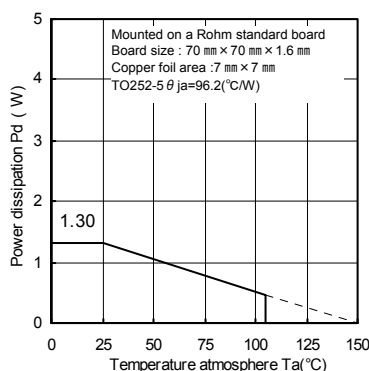
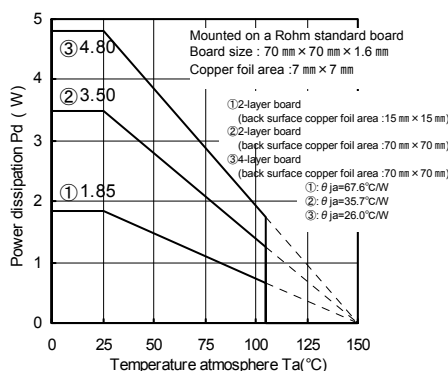
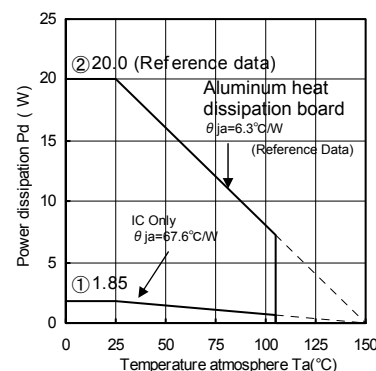

Fig.15
Fig.16(Reference data)
Fig.17
When using at temperatures over $T_a=25^\circ\text{C}$, please refer to the heat reducing characteristics shown in Fig.15 and Fig.16.
Fig.15 and Fig.16 shows the acceptable loss and heat reducing characteristics of the TO252-5 package. Even when the ambient temperature T_a is a normal temperature (25°C), the chip (junction) temperature T_j may be quite high so please operate the IC at temperatures less than the acceptable loss P_d .
The calculation method for power consumption $P_c(\text{W})$ is as follows : (Fig.16③ and Fig.17)
$$I_o \leq \frac{2.496 - 10 \times I_b}{5} \quad \left[\begin{array}{l} \text{Fig.16③: } \theta_{ja}=26.0^\circ\text{C/W} \rightarrow -38.4\text{mW}/^\circ\text{C} \\ 25^\circ\text{C}=4.80\text{W} \rightarrow 85^\circ\text{C}=2.496\text{W} \end{array} \right]$$
$$I_o \leq \frac{10.4 - 25 \times I_b}{20} \quad \left[\begin{array}{l} \text{Fig.17(Aluminium heat dissipation board)} \theta_{ja}=6.3^\circ\text{C/W} \rightarrow -160\text{mW}/^\circ\text{C} \\ 25^\circ\text{C}=20\text{W} \rightarrow 85^\circ\text{C}=10.4\text{W} \end{array} \right]$$